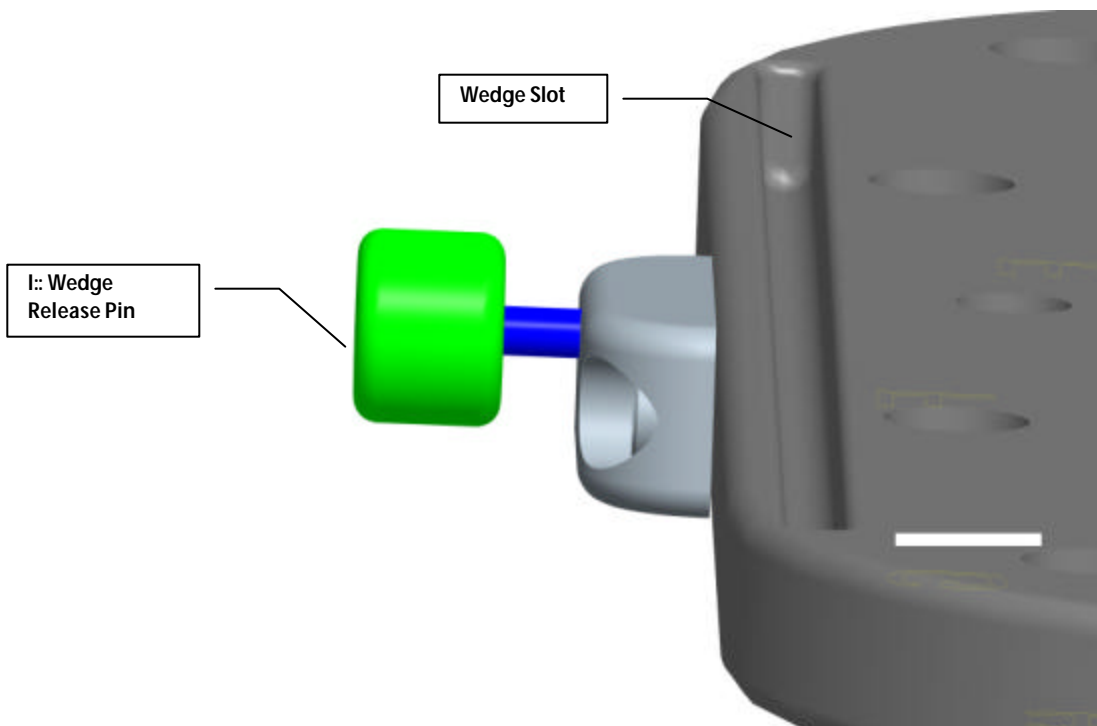

Figure 1 - Wedge Release Close-up (from underside)
B:: Max ³ Upper Assembly	Figure 1
1. Position the Max³ Upper Assembly (B) with backstop assembly on the treatment table (E) as shown in assembly diagram.
- a. Note - The Max³ Upper Assembly (B) indexes on top of the Max³ Backstop (D) to reduce movement.
- b. Optional: Use the Bionix SecureFit Bar (F), RT-5010 or RT-7010 in Carbon Fiber.
3. See the assembly diagram and "Figure 1", Position the attached wedges (G) of the Max³ Breast Board to the desired angle, 7°, 12°, 17° or 23°, pull the wedge release pin (I), lower the Upper Assembly (B) and Align the attached wedge into the "Wedge Slot"
4. Then press the Wedge Release Pin (I) in to secure the wedge in place.